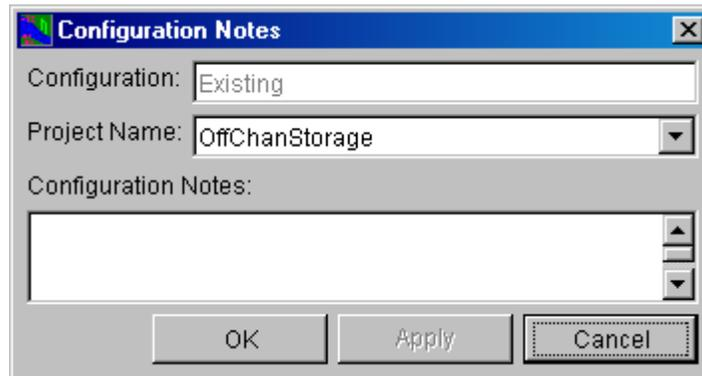

Figure 6.22 Configuration Notes - Off-Channel Storage
2. From the shortcut menu, select **Configuration Notes**. This command opens a dialog box for entering text information about an Off-Channel Storage Area project that is specific to the configuration (Figure 6.22).